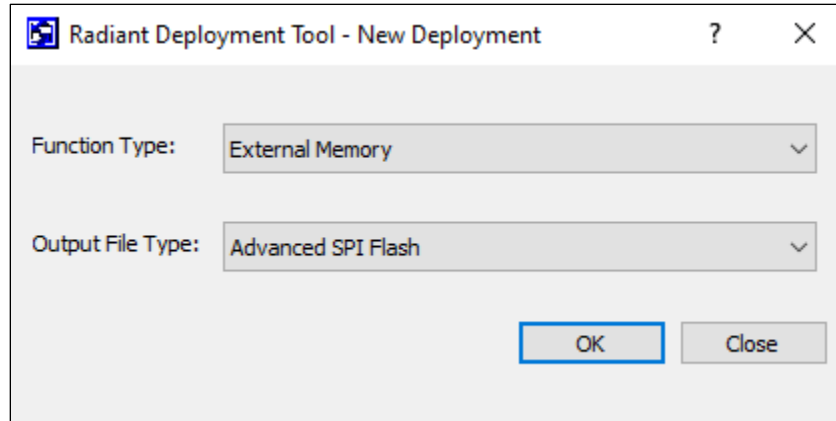

Figure 7.12. Creating New Deployment for Multi-Boot File
- In the Radiant Deployment Tool window, select **External Memory** as the **Function Type** and select **Advanced SPI Flash** as the **Output File Type** (Figure 7.12).